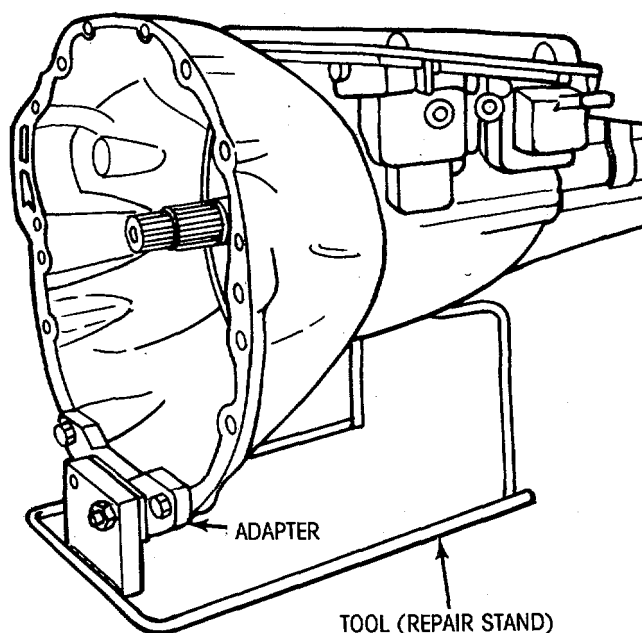

Figure 5-9. Transmission Installed on Control Stand
21. Place the transmission and converter in repair stand C-3750 with adapter C-3882 or equivalent to the one shown in figure 5-9.